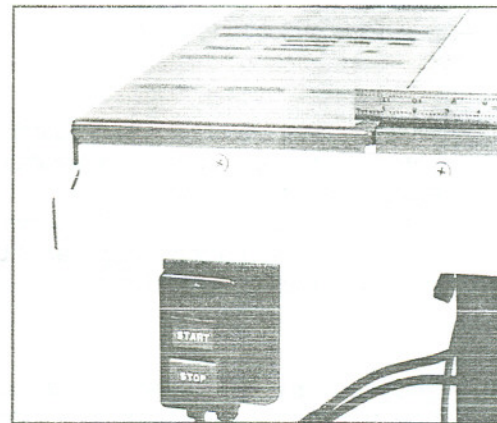

Fig. 10
10. Bring the straight edge out to the highest point on the wing at the front of the saw. (Fig. 10) You may have to grab the outside edge of the extension wing and pull up or push down to level. Once the highest point at the front of the saw is located, tighten the hardware holding the extension wing to the front rail.